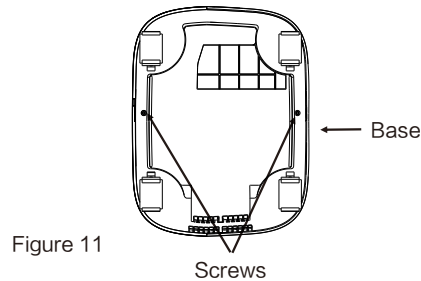

Figure 11
- Lay the oxygen concentrator on the side, unscrew fixing screws in the bottom. (Figure 11)